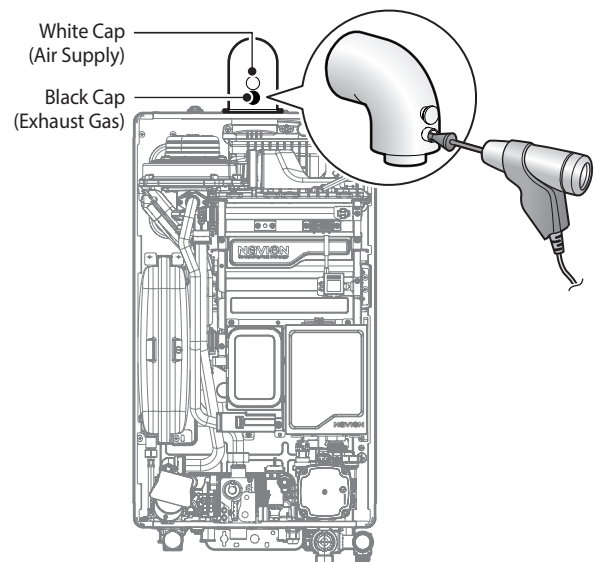

Figure 7. Insert the Analyser
- a. Loosen the screw, rotate the plate and remove the gasket to access the emissions monitoring port as shown in Figure 7.
- b. Insert the analyser into the port (Figure 7).